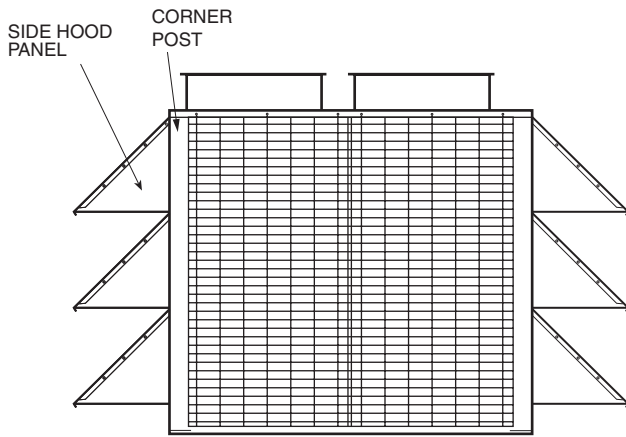

Fig. 8 — Typical 30GXN,R End View with Wind Baffles
1. Join 3 side panels to the corner posts on the control/power box end of the unit using the screws supplied in the accessory package. See Fig. 8. The insulated sides of the panels should face inward. Repeat this procedure for the header end of the unit.